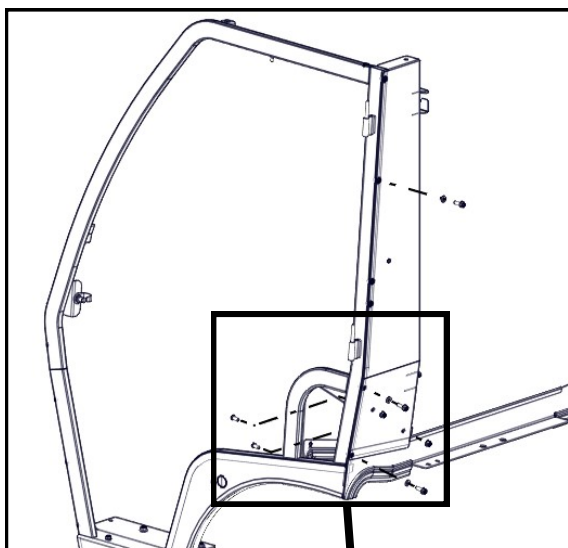

Fig. 6.1 (Left Rear Leg Installation)
**6.1** With assistance, install the left rear leg oriented as shown. See fig. 6.1. Fasten to Lower Rear Panel and left sideframe. Note: make sure 5/16-18 button head screws are installed inside of fuel filler with flange nuts on the outside—no plastic washers.